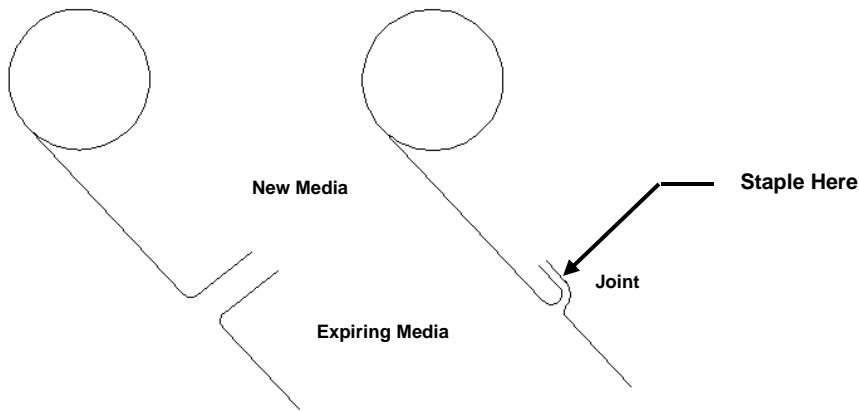

FIG. 22 Creating Media Splice Joint
5. Use a standard stapler, and staple the joint in several places starting at each edge toward the center as much as stapler will allow. See Figure 22.